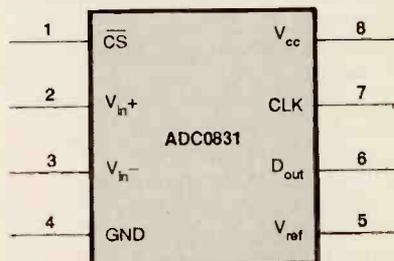

Fig. 1. This is the pinout of the ADC0831, which is the heart of the A/D Converter.
As shown in Fig. 1, the ADC0831 is an 8-pin IC. Operation is enabled by placing a logic low on pin 1, the chip select (CS). Data is sent out of pin 6 (D_{out}), and the IC requires a clocking signal at pin 7 (CLK). Power is applied to pins 8 (V_{cc}) and 4 (GND). The input signal is provided to V_{in+} , which is pin 2. The zero-conversion reference voltage is provided to V_{in-} (pin 3). Finally, the voltage representing the range of the 8-bit conversion is provided to V_{ref} (pin 5).